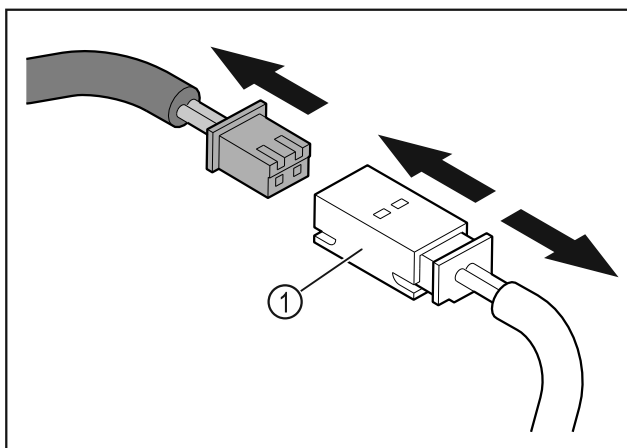

Fig. 10
- Disconnect the plug and the plug coupling Fig. 10 (1).